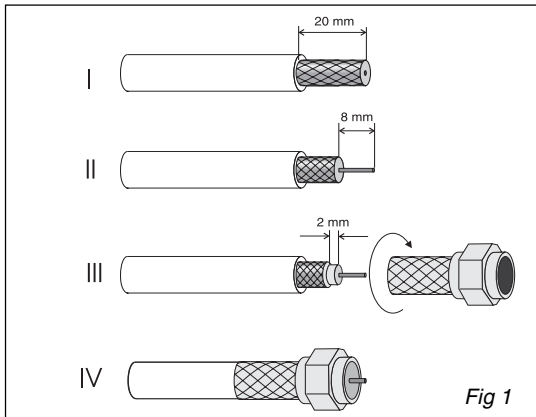
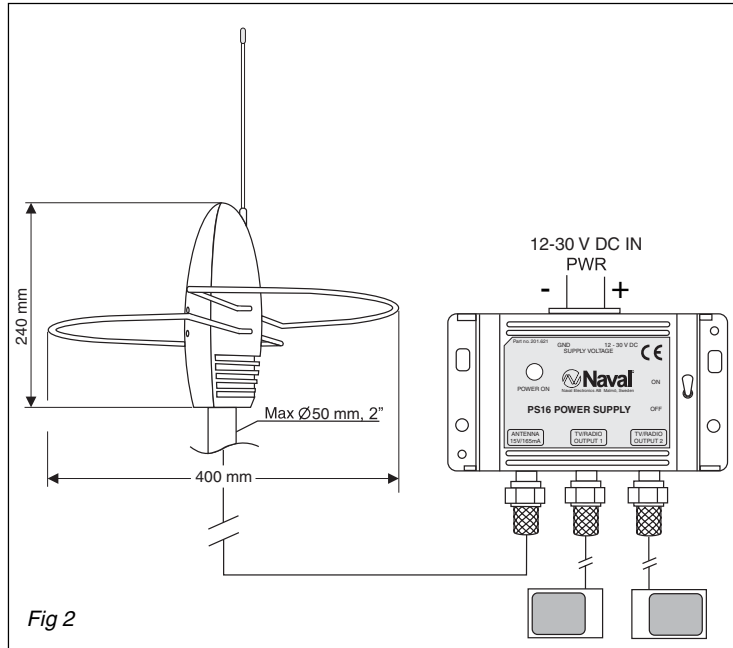

Fig 1
Fig 2
B. Strip the download coaxial cable and twist on the F-connector, see fig. 1. Make sure that no parts of the braid are short-circuiting the inner conductor. Connect the cord to the terminal marked "antenna". See fig.2.